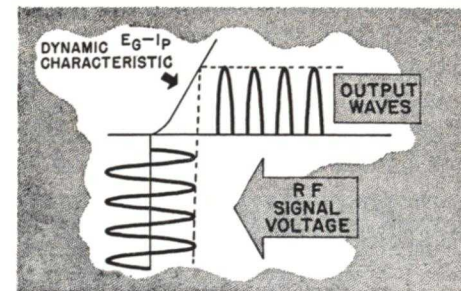

FIG. 7. Operating an r.f. stage at cut-off, the output wave is a series of pulses, but they are reconstructed by the following resonant circuit.
6 is forced to operate on the curved portion of its characteristic (Fig. 7) by, say, excess bias and low screen voltage caused by leakage in condenser  $C_1$ .
▶ Similarly, the first detector is designed to operate at the plate current cut-off point just like any other detector. It must cut off half the wave (Fig. 7) to give the necessary mixing action. If a defect occurs the detector may work on the straight portion of its curve and become more of an amplifier than a detector. Some mixing of